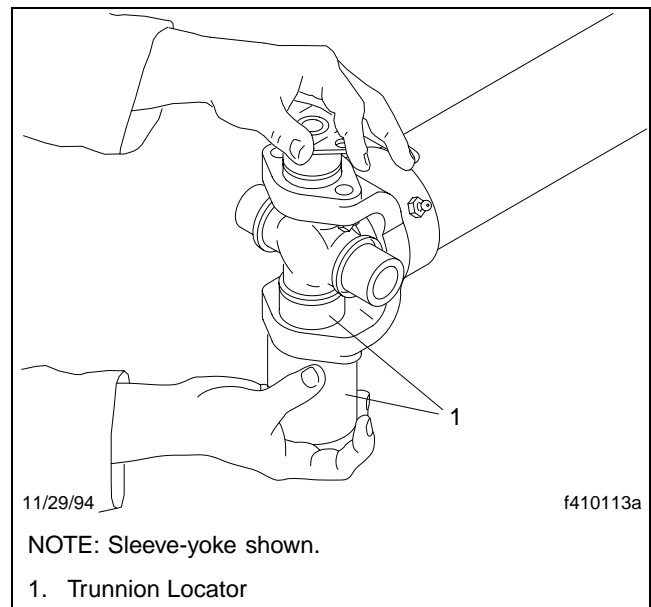

Fig. 4, Use a U-Joint Trunnion Locator
- 15.2 Move one end of the cross until a trunnion projects through the cross-hole, beyond the outer machined face of the yoke lug. Using a Spicer trunnion (journal) locator, hold the trunnions in alignment with the cross-holes, while placing a bearing assembly over the projected trunnion, and aligning it with the cross-hole. See **Fig. 4**.